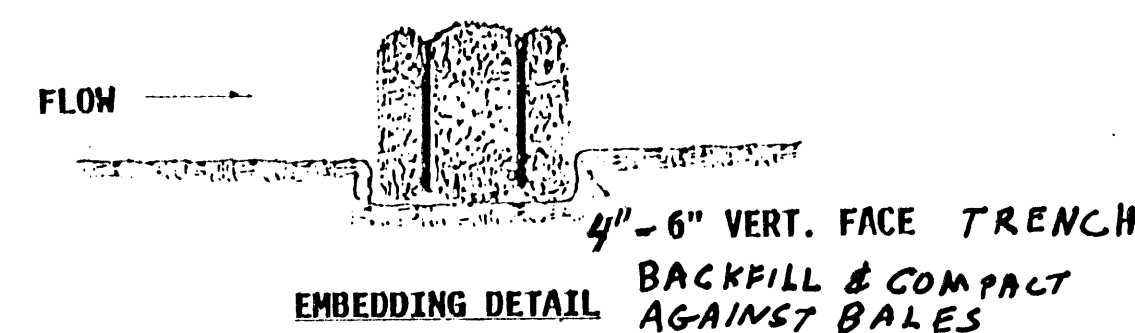

FIGURE 2 STRAW SEDIMENT BARRIERS
3. Straw bale barriers should be staked in place, as shown upon Figures 2 & 3. Loose hay should be scattered up from the bales to increase barrier efficiency and to seal holes in the barrier.